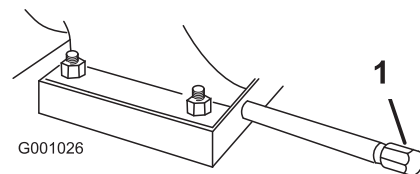

Figure 44
1. Clean the area around the oil drain cap (Figure 44).